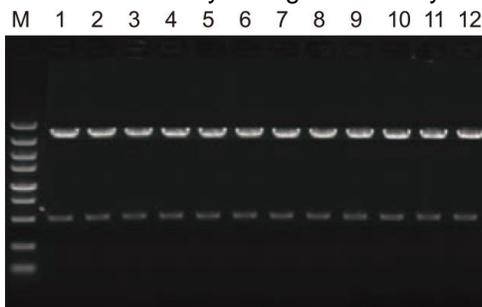

Fig 3. Agarose Gel Electrophoresis of Enzyme Digestion Products
- 6.3 Inoculate the remaining medium of positive clones into fresh LB medium and culture overnight. Then, extract the plasmids for further enzyme digestion analysis (Fig 3) or DNA sequencing.